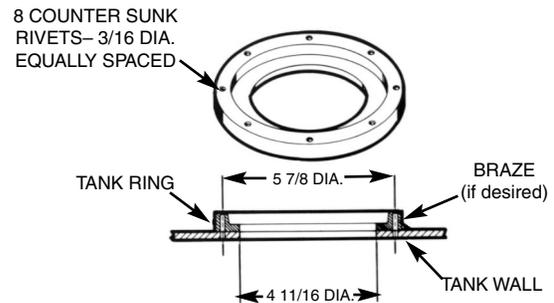

Figure 2.
2. Using the inner circumference of the tank ring as a template, locate and prepare a 4-11/16 inch diameter opening into the tank. Secure the tank ring to the outside of the tank with eight (8) counter-sunk 3/16 inch diameter rivets (not supplied) or braze ring to tank if desired. See Figure 2.